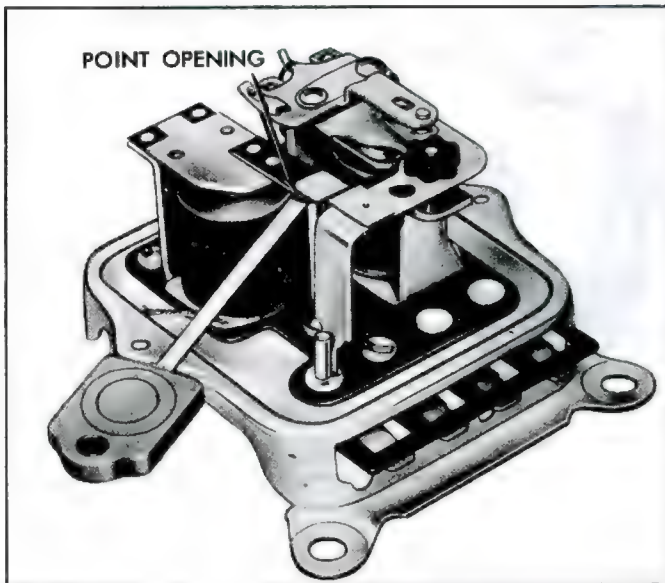

Fig. 23c—Checking Field Relay Point Opening
1. Point Opening: The point opening is checked as illustrated in Figure 23c. If adjustment is necessary, carefully bend the armature stop.